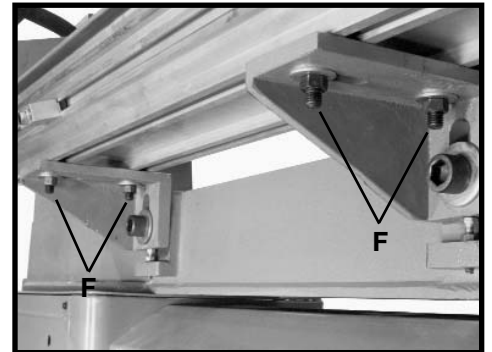

Fig. 30
5. Tighten four M10 hex nuts (F) Fig. 30 only enough to hold the duplicator rail in place on the mounting brackets.
7. Tighten hardware (F) Fig. 30.